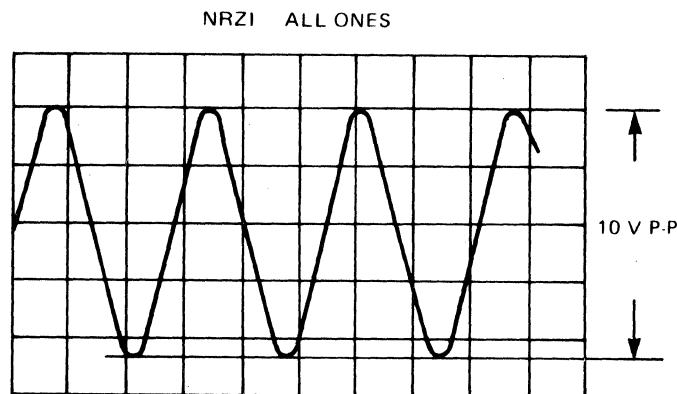

Figure 5-4. Amplifier Waveforms, NRZI All ONes (TP101)
- f. Read during write and adjust potentiometer R117 until the analog signal displayed on the oscilloscope is 10 volts peak-to-peak (figure 5-4).